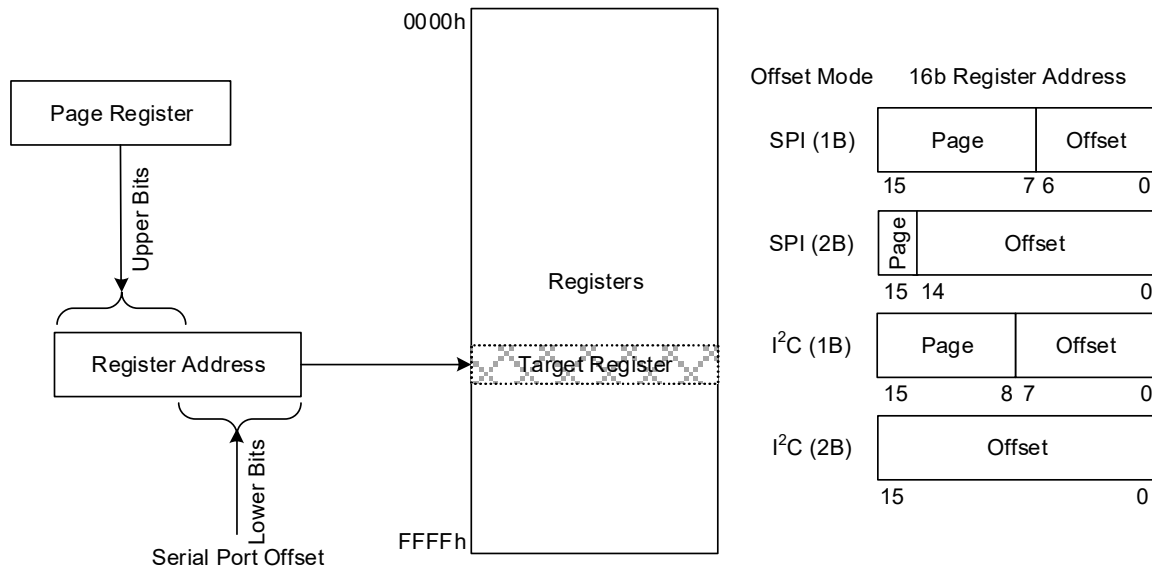

Figure 15. Register Addressing Modes Using Serial Port
You can choose to operate the serial port providing the full offset address within each burst, or to operate in a paged mode where part of the address offset is provided in each transaction and another part comes from an internal page register in each serial port. Figure 15 shows how page register and offset bytes from each serial transaction interact to address a register within the RC22504A.
The selection of 1-byte (1B) or 2-byte (2B) offset addressing must also be configured using the `ssi_addr_size` register field. These offsets are used in conjunction with the page register to access registers internal to the device (see Figure 15). Because the I2C protocol already includes a read/write bit with the Dev Addr, all bits of the 1B or 2B offset field can be used to address internal registers.
- 1-byte (1B) or 2-byte (2B) offset addressing (`ssi_addr_size`) (see Figure 15)